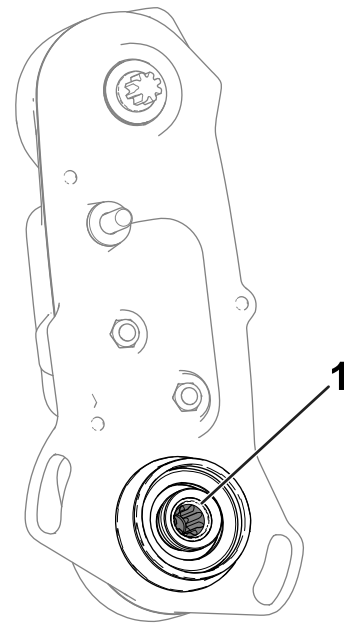

Figure 6
3. Check the inside of the reel driveshaft (Figure 6) for any remaining grease.